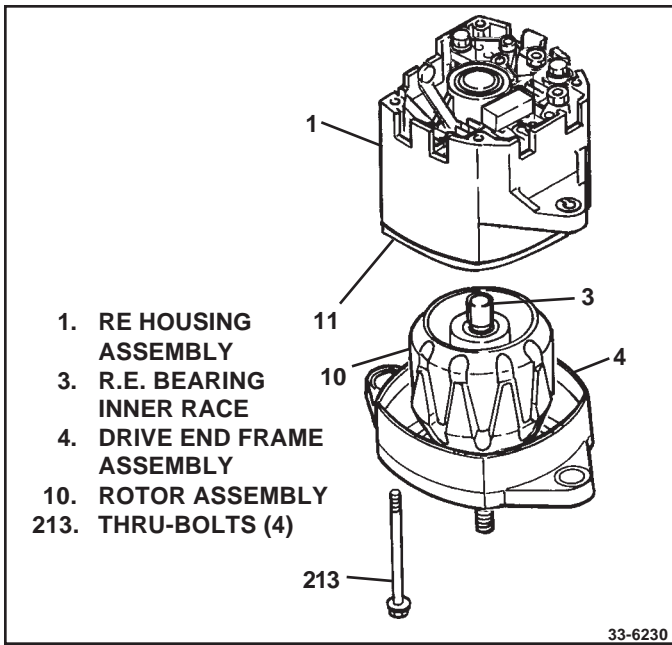

Figure 37. Assembly of Alternator Halves
26. Inner race of rectifier end bearing (3) on rotor shaft to prevent contamination of grease. (See Fig. 37) Remove tape to expose rectifier end bearing.
27. Align mounting lugs and assemble two halves of alternator (See Fig. 37), inserting rectifier end bearing inner race (on rotor shaft) into bearing in rectifier end housing (1). Seat drive end housing (4) at this time. Using arbor press and appropriate block to apply even pressure on end frames.